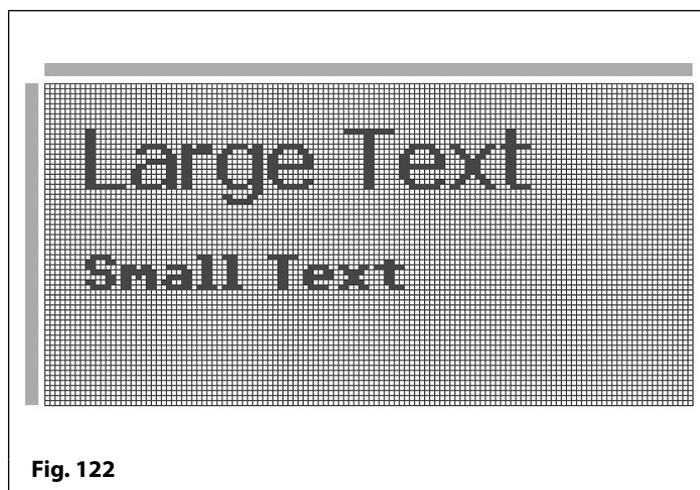

Fig. 122
- The text entered into the field will appear in the main editing area where the pointer was last positioned, as shown in **Fig.122**.